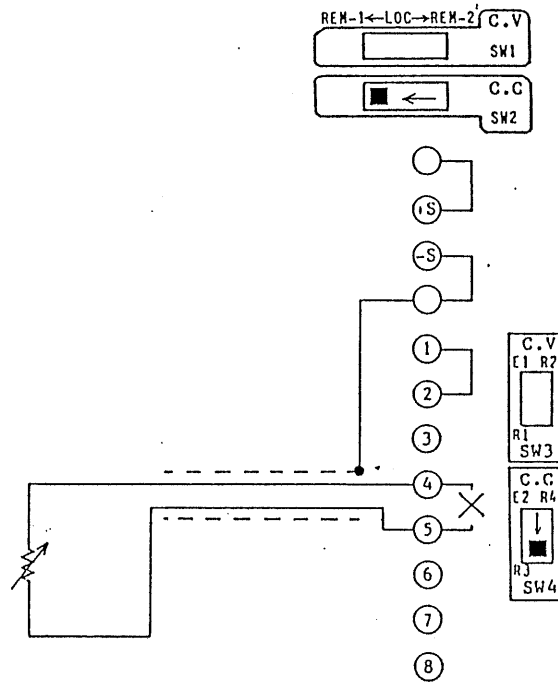

Figure 4-9
- (1) Turn off the POWER switch.
- (2) Throw the SW2 switch of the rear panel to REM-1.
- (3) Throw the SW4 switch of the rear panel to R3.
- (4) Disconnect the jumper from between terminals ④ and ⑤ of the rear terminal block.
- (5) Connect a control resistor (R3) to between terminals ④ and ⑤.
- (6) Connect an ammeter (a shunt resistor) between the OUTPUT terminals.
- (7) Turn on the POWER switch. (Turn on the OUTPUT switch.)
- (8) Adjust offset (at zero amperes) with the A.os control of the service panel. $R3 = 0 (\Omega)$ (See Section 4.8.1, Note 5.)
- (9) Regarding the switches for which no settings are specified in Figure 4-9, set them to the standard states as shown in Figure 2-25 (See Section 2.4.) or to appropriate states for respective modes (See Sections 4.1 through 4.11.).